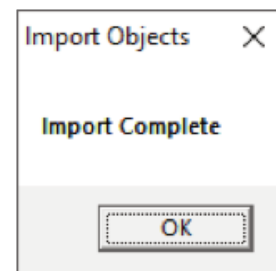

Figure 4.9 Import Complete
4. You will get a Import Complete dialog box as shown in figure 4.9, select OK.